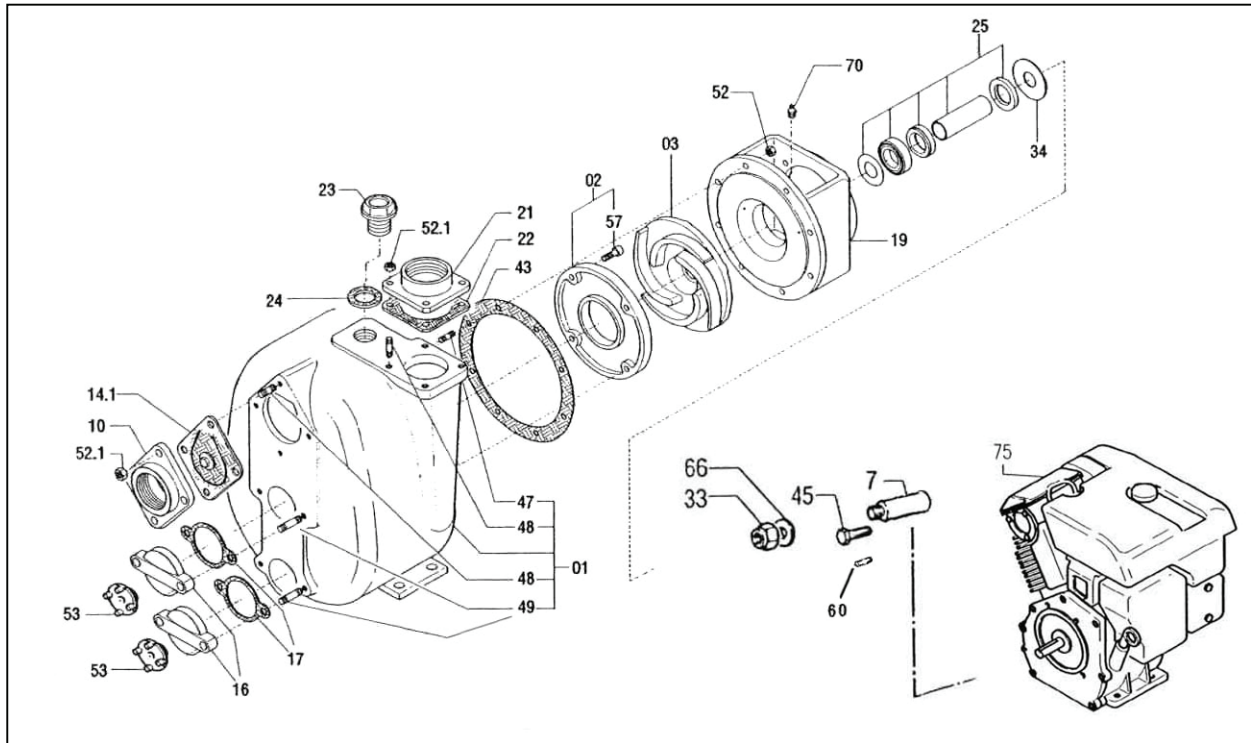

Figure 42
9.3.2 Mechanical Seal (figure 42, #25)
The mechanical seal assembly (figure 42, #25) can be inspected without taking the pump unit apart. The mechanical seal (figure 42, #25) is a dynamic seal that rotates with the shaft assembly and keeps the pumped liquid with the pump assembly. Over time this seal will wear and begin to leak. The seal assembly (figure 42, #25) is constructed of hard, yet brittle, materials that are susceptible to cracking if extreme shock loads are applied to the pump and motor assembly. Take great care in handling and inspecting the mechanical seal (figure 42, #25). Any visible leakage is considered a seal failure and means that the seal assembly needs to be replaced.
Inspection: Inspect the area between the shaft (figure 42, #7) and the head (figure 42, #19) for leakage. If there is leakage at this point, the mechanical seal (figure 42, #25) has failed and needs to be replaced.